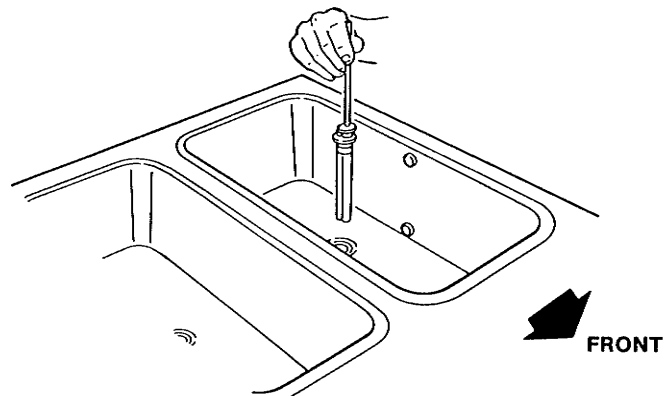

Figure 10. Mix Inlet Regulator
- A. Push the mix inlet regulator fully into hopper (Fig. 10).